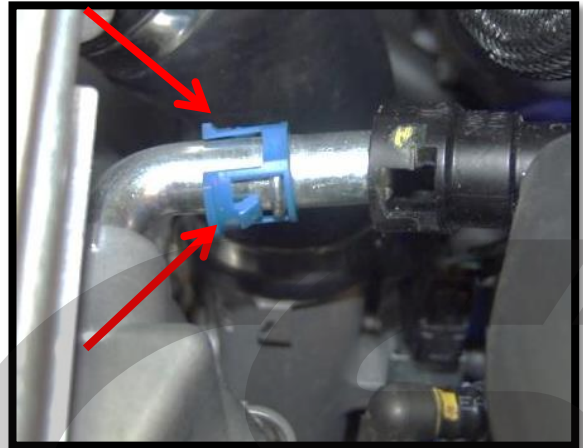

Figure 1d
- f) **Remove the valve cover breather tube.** Push the hose connector toward the valve cover and press both sides of the colored clip simultaneously. Pull the hose away from the valve cover (**Figure 1d**).